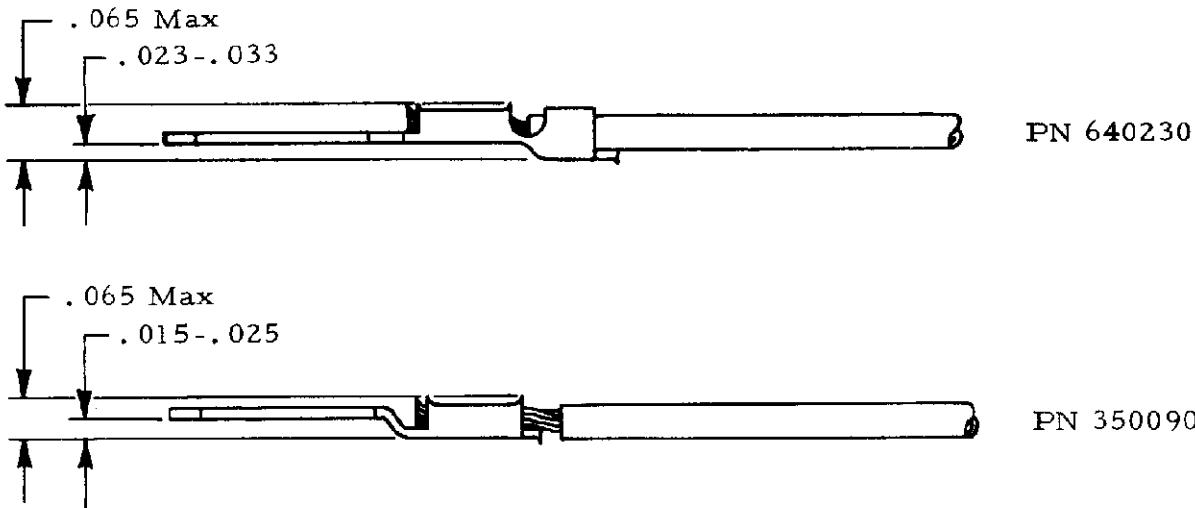

Figure 2
- (1) Rear bellmouth length shall not exceed .020 and be within the requirements of Figure 2. In the event of conflict, the requirements of Figure 2 shall take precedence.
- (2) Front bellmouth length shall not exceed .010.
- (1) The contact shall be within the limits shown in Figure 2 after crimping.